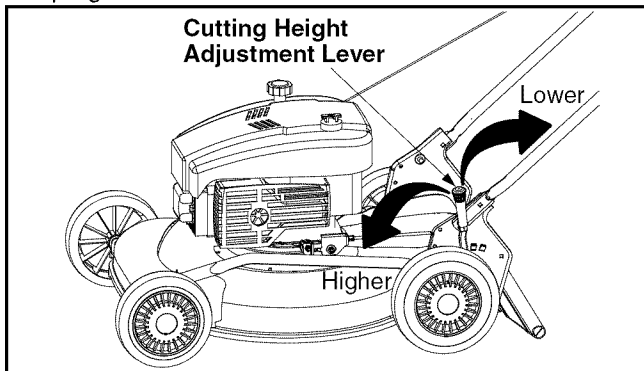

Figure 10
- Pull the lever out and away from the mower and then move it forward or backward to another slot. See Figure 10.